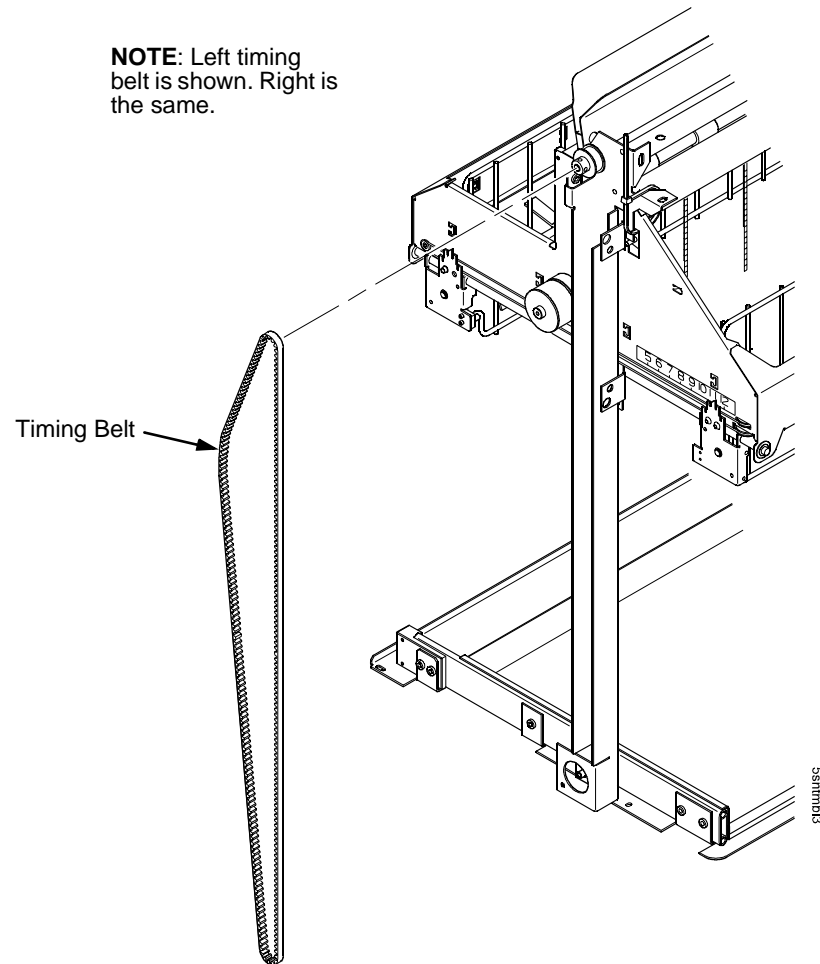

Figure 105. This figure shows how to remove the timing belt.
8. Remove the timing belt by working it around the vertical rail and constant force spring. (Figure 105.)